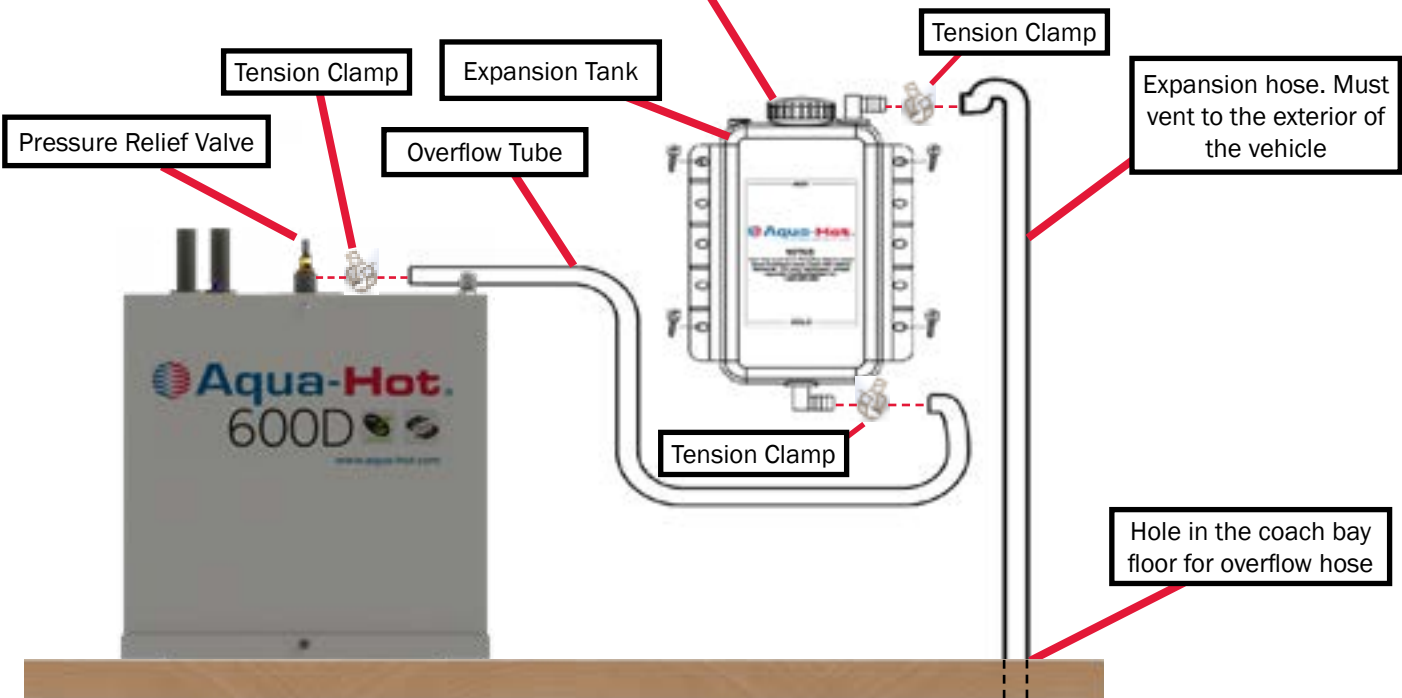

Figure 15
- 1. Mount the expansion tank as illustrated in Figure 15. The overflow tube should have an incline.
- 2. Connect and clamp the overflow tube from the expansion tank to the Aqua-Hot's expansion tank connection as shown in Figure 15.